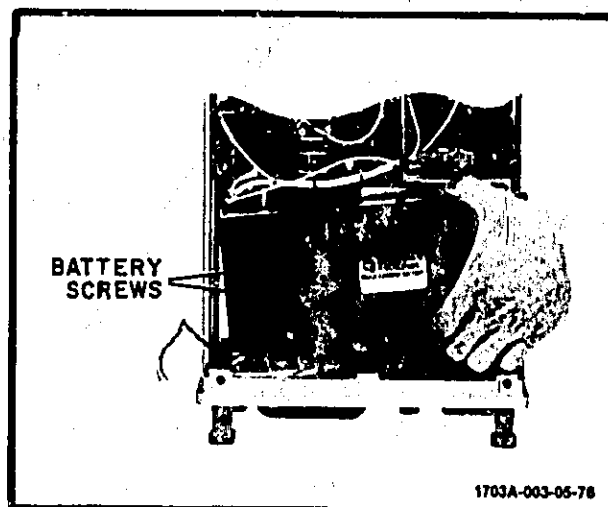

Figure 2-2. Battery Pack Installation
- e. Place battery pack in instrument as shown in figure 2-2.
- f. Tighten battery screws in place (figure 2-2).
- g. Connect P1 to battery J1 as shown in figure 2-2.